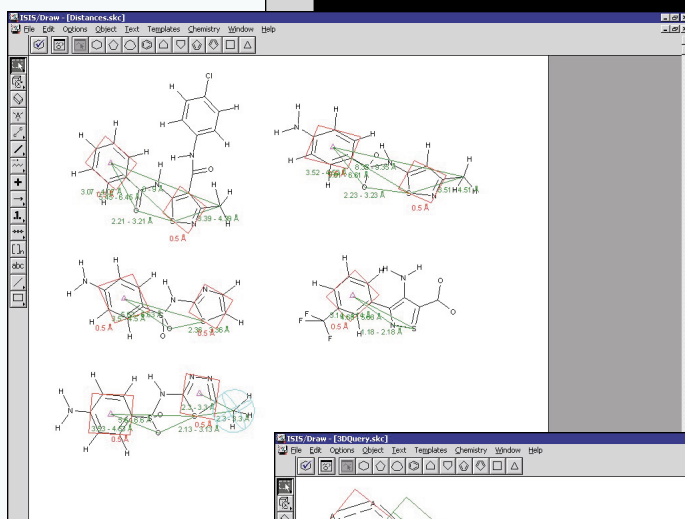
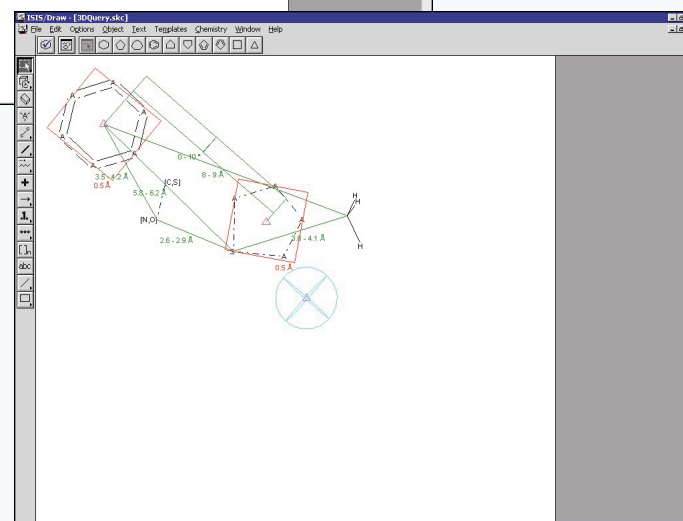

Figure 3
Figure 4
**Figure 3:** The table shows optimization results for the ACE inhibitor pharmacophore indicated. While optimization in general increased both the yield and the specificity of the pharmacophores, Function 2 converged more rapidly and performed slightly better than Function 1.
Figure 3 (see page 7) shows the training and prediction results that the authors obtained for optimizing an ACE inhibitor pharmacophore against a set of 200 known inhibitors in MDL's MDDR database. The initial pharmacophore retrieved 404 of the 471 possible ACE inhibitors, a
Using these observations as a guide, the scientists measure the distance and angle parameters between the functional parts of the molecules, either directly in SCULPT or by transferring the structures back to ISIS/Draw (see Figure 3). Comparing the results and selecting “Chemistry → Create 3D” produces a 3D CFS query that averages the values for each compound (see Figure 4). This query specifies an aromatic ring, a simple H-bond acceptor, a five-membered sulfur heterocycle, a methyl group, and an exclusion sphere with distance and angle parameters reflecting the measurements from the five original molecules. Executing the query against MDDR-3D 99.2 (105,372 compounds) using default CFS parameters retrieves 10 hits—a much more refined list than the 5,863 hits retrieved from a 2D substructure search using the fragments upon which the 3D query was based. ❖